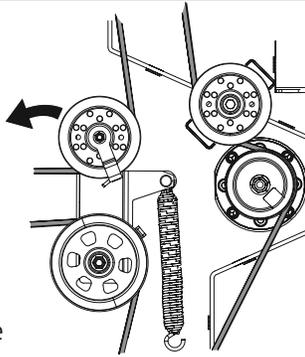

Figure 45
9. Pull the right side of the PTO belt rearward and place the narrow V-side of the PTO belt into the PTO pulley. See Figure 45.